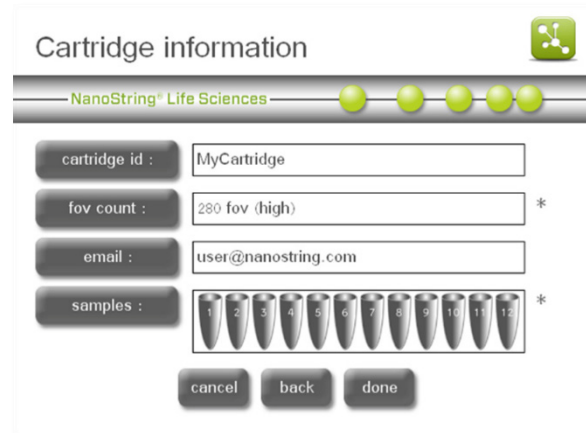

Figure 75: The 'Cartridge information' screen.
8. Press **enter**. The system will return to the 'Cartridge information' screen (**Figure 75**).